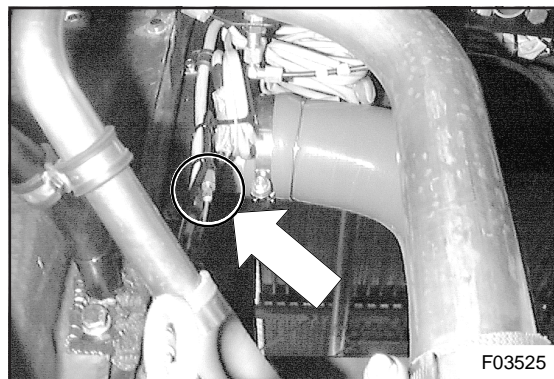

Figure 10: Fan clutch electric connector
12. Remove the wire straps securing fan clutch electric lead to engine flitch panel. Disconnect connector near upper right hand fan support bracket (see Figure 10).